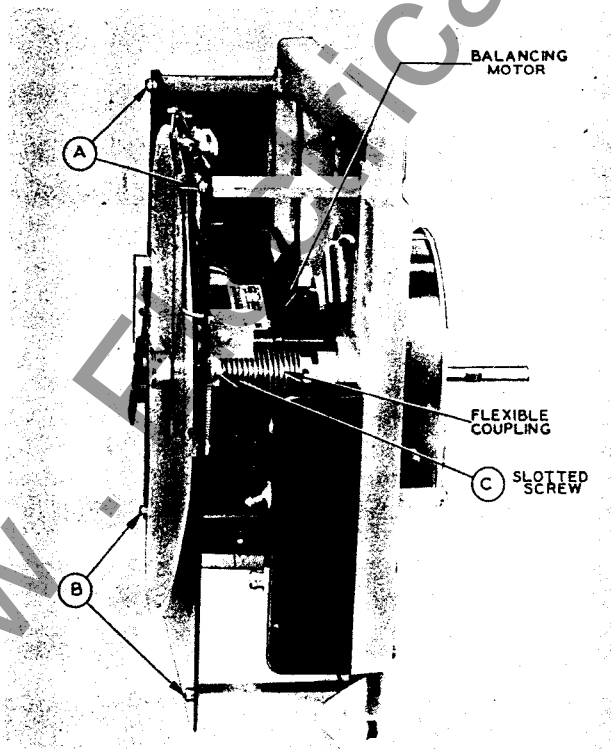

FIGURE 8. END VIEW OF CHART PLATE AND PANEL
4. **Replacement of Balancing Motor.** Turn power switch off. Refer to Figure 8. In order to replace the balancing motor, it is first necessary to remove the chart plate. Remove screws B and loosen screws A. Loosen slotted screw C on flexible coupling.